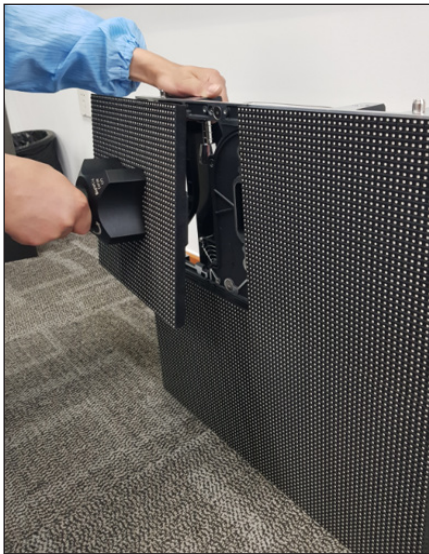

Figure 12: Remove Module from Panel
- 4. Pull the module straight out until it disengages from the display face. Refer to **Figure 12**. When the module is off the panel, hold onto the module and retract the magnet latch.